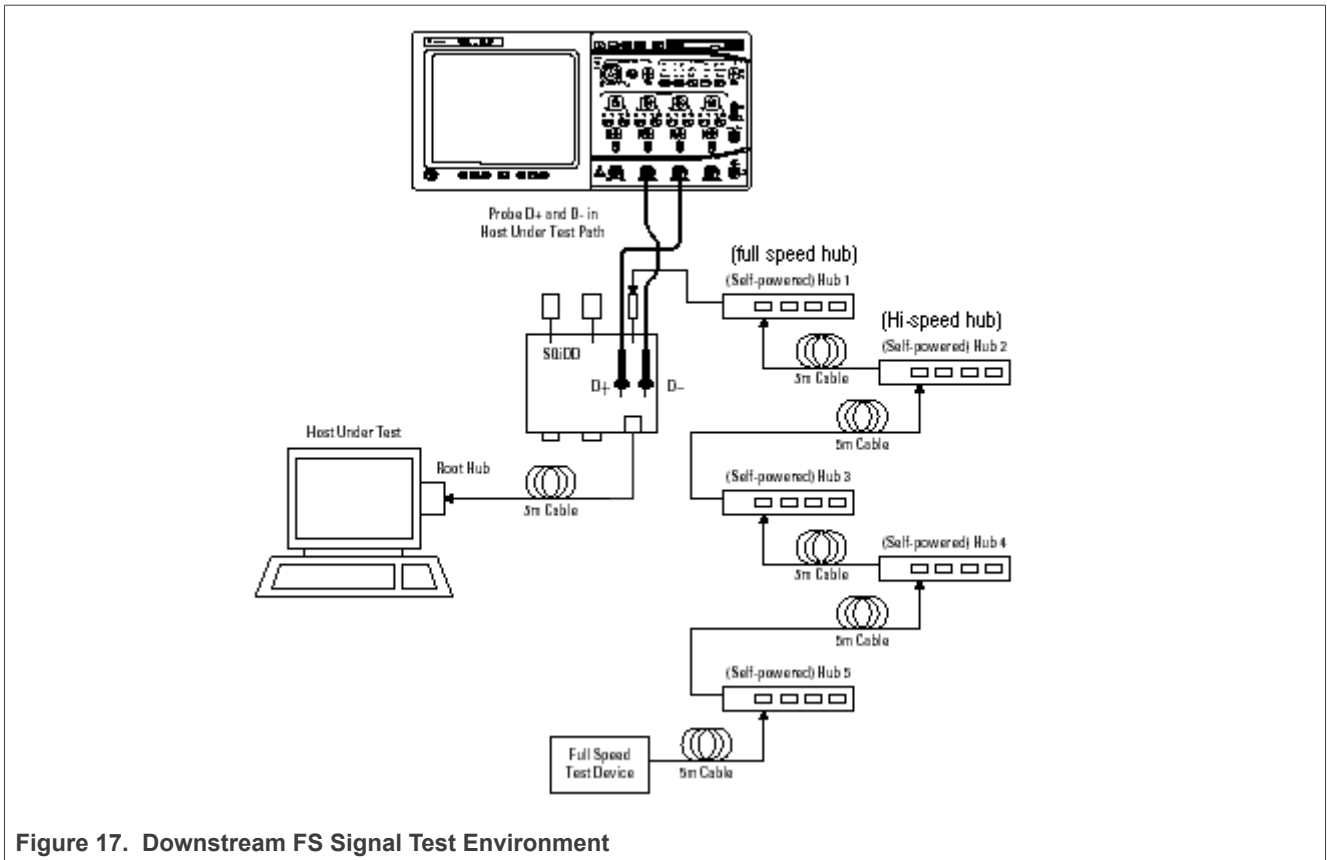

Figure 17. Downstream FS Signal Test Environment
2. Connect the equipment and test fixture as shown in Figure 17.